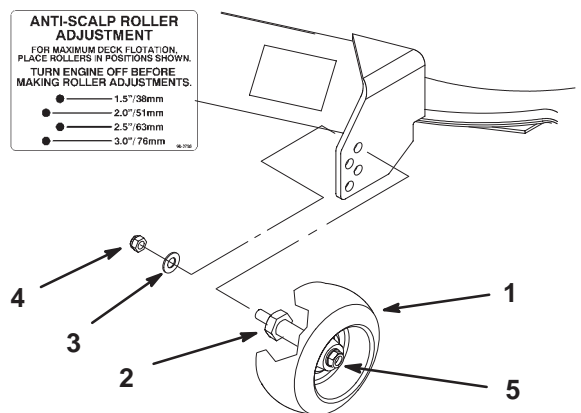

Figure 12
2. After adjusting height-of-cut remove flange nut and spring disk while holding stud with wrench (Fig. 12).
Note: Do not remove the wheel nut and washer (Fig. 12).
3. Select hole so gage wheel is positioned to the nearest corresponding height-of-cut desired (Fig. 12).
4. Reinstall the flange nut and spring disk. Torque to 40–45 ft-lbs. (54.2–61.0 N•m) (Fig. 12).